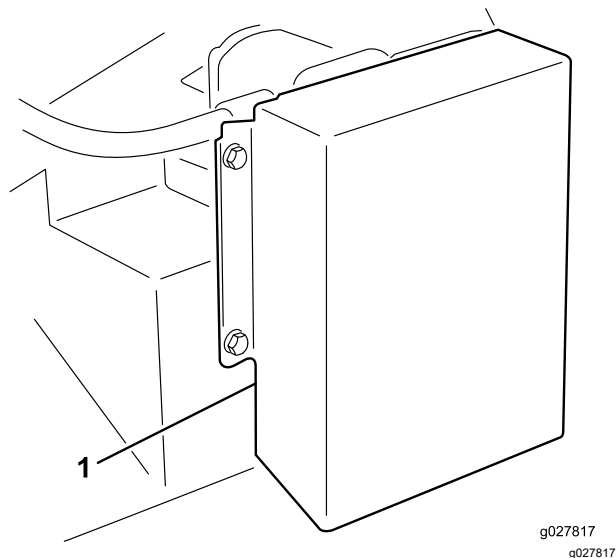

Figure 9
1. Remove the fasteners securing the motor shield to the deck frame (Figure 9). Remove the shield.
2. On back side of the frame, loosen the bolt securing the belt tensioner to the frame (Fig. 9).
3. Remove the bolt and nut securing the tensioner guide to the drive mount (Fig. 9). Belt tension will be released when the bolt is removed.